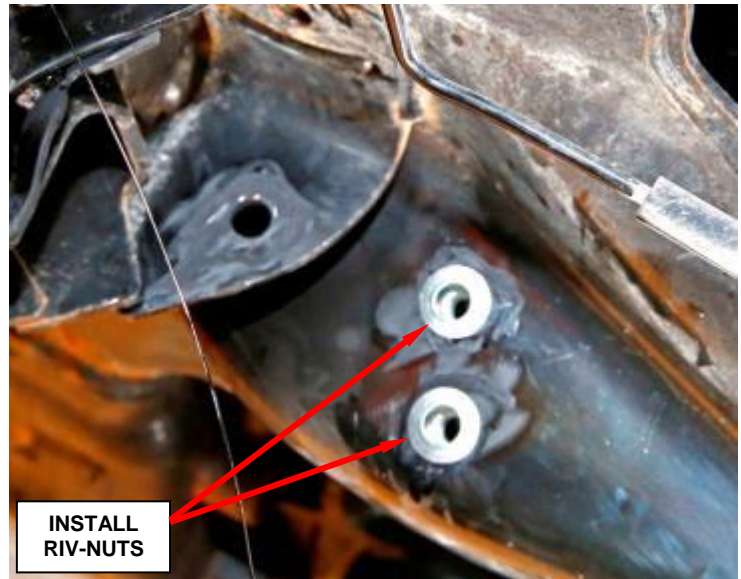

Figure 21 – Install Riv-Nuts into 17/32" Holes
36. Remove all burrs from remaining holes to ensure that the head of the riv nut sits flush against the frame surface (Figure 21).